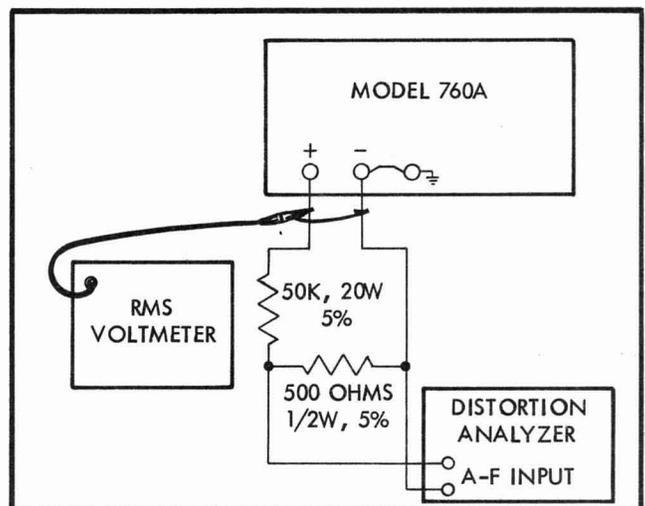

Figure 4-5. POWER AMPLIFIER DISTORTION TEST AND ADJUSTMENT SETUP
- (1) Turn the FUNCTION switch to VOLTS,
- (2) Turn the FREQUENCY switch to 400 Hz,
- (3) Set the readout dials to 999.9900, and
- (4) Turn the OUTPUT ADJUST-COARSE control to RESET.
- b. Connect the Model 760A and test equipment as shown in Figure 4-5.